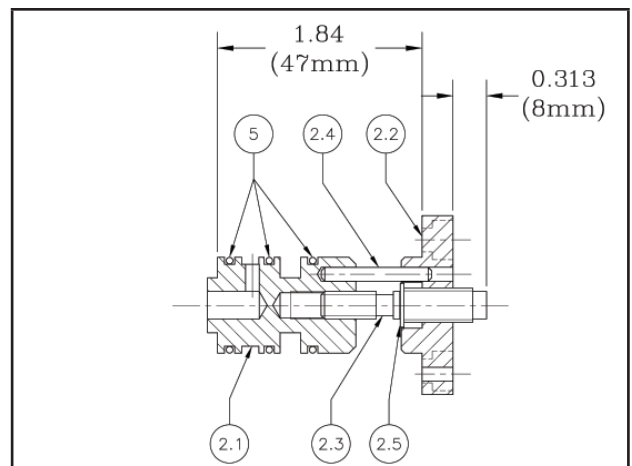

Figure 9: Sensor Sub-Assembly Dimensions
3. Remove name plate (10) by removing screw (9).
4. Remove four sensor end plate screws (8).
5. Grasp sensor end plate (2.2) and withdraw vertically from housing (1). Lay sensor subassembly (see Figure 9) on work surface; take care to not lose sensor pin (2.4) in handling.
6. Hand-grasp housing (1) and rotate CCW (viewed from knob end) to removal. Keep track of the number of revolutions to removal in table of Step 2, previous. Take care not to invert and drop the sensor plate subassembly (15) from the housing (1) internals in handling.
7. Remove thermal bulb (12) from vise, taking care not to invert and drop Invar rod (13) (also extension post (14)) of the thermal bulb (12) and cause end damage to rod (13) (also post (14)). Examine bulb (12) interior for signs of leakage; recommend complete 764T replacement if leakage is discovered.
8. Holding the housing (1) in a vise, remove the sensor plate O-ring (6) using an awl-type tool, and discard. **DO NOT DAMAGE METAL SURFACES!**
9. Remove the housing (1) from the vise, invert housing (1) with hand covering knob-end to allow sensor plate subassembly (15) to drop/slide out of the housing (1); it may be necessary to push adapter (15.2) to remove the sensor plate subassembly (15).
10. Pick up sensor subassembly (2). Allow sensor pin (2.4) to be removed. Rotate sensor (2.1) CCW (viewed from sensor end) to removal. Keep track of the number of rotations to remove the sensor (2.1) from the adjusting screw (2.3) in the following table:
14. Reverse the rotation of the needle valve (3) and fully remove. Remove needle valve O-ring (7).
16. Install new O-rings on the needle valve (7), and three on sensor (5).
17. Place thermal bulb (12) back into a vise. Insert Invar rod (13) (also extension post (14)) into thermal bulb (12).
18. Re-assemble sensor subassembly (2) end plate (2.2), adjusting screw (2.3), and sensor (2.1) per the recorded number of revolutions of Step 10, this sub-section; this will give "preliminary" adjustment. See Figure 9 for "final" adjustment dimensions of the sensor subassembly (2). Rotate sensor (2.1) as required to the closest hole available to allow sensor pin (2.4) to be inserted; insert pin (2.4).
A. Improper sensor sub-assembly setting.	A. Remove sensor sub-assembly. Check dimension to those indicated in Figure 9. If dimension is correct, and high setting cannot be reached, decrease dim "X" by rotating sensor end plate 1/2 revolution CW; reverse for lower setting.